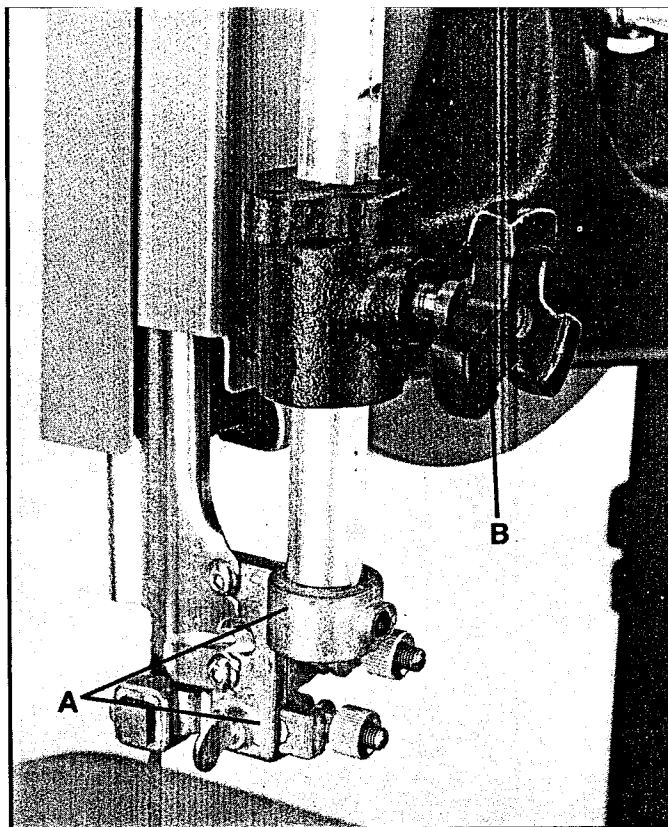

Fig. 26
The upper blade guide assembly (A) Fig. 26, should always be set as close as possible to the top surface of the material being cut by loosening lock knob (B) and moving the guide assembly (A) to the desired position.